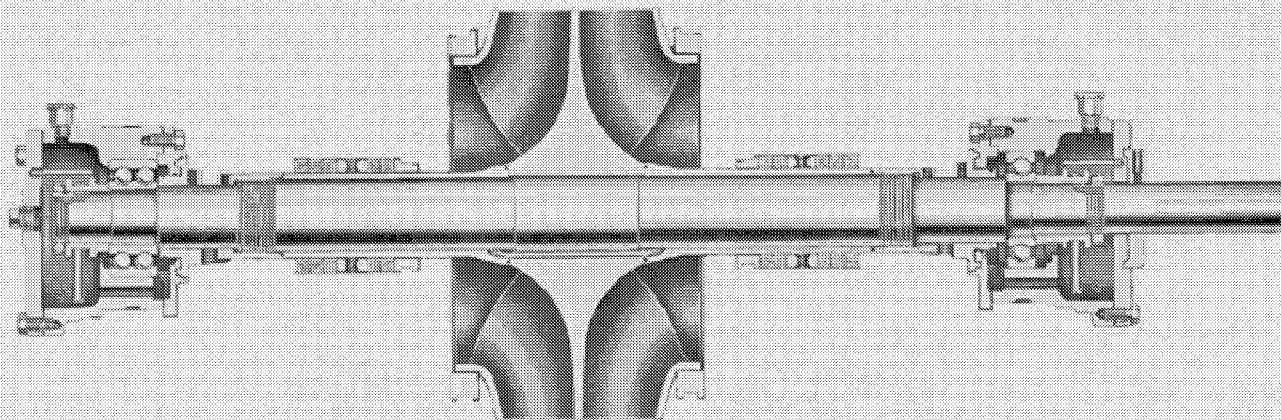

Figure 3A
3. Place sling in position (see Figure 3A) and take weight off element. Make sure all stationary parts of rotating element are loose before rotating element is removed. It is desirable to rotate casing wearing rings, stuffing box bushings and bearing housings 180° to disengage tongue and groove locks.